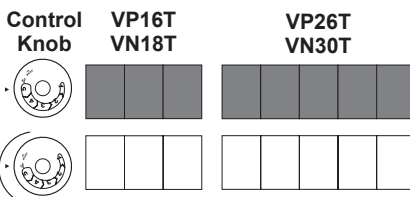

Figure 25 - Burner Patterns
8. Turn thermostat control knob counterclockwise to the desired heating level. For models, VP16T, VN18T, VP26T and VN30T, the main burner should light. Set control knob to any heat level between 1 and 5 (see Figure 25). For infrastat models, the plaque directly above the pilot should light.